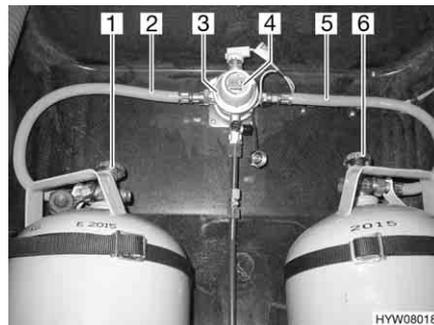
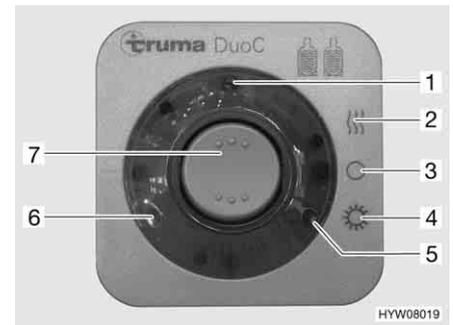

Fig. 147 DuoControl switching facility
Fig. 148 Operating unit
The DuoControl switching facility consists of a reversing valve (Fig. 147,3) and an operating unit (Fig. 148). The reversing valve is installed between the gas tubes (Fig. 147,2 and 5). The knob (Fig. 147,4) on the reversing valve is used to select which of the gas bottles is to be used as a primary bottle and which is to be used as a reserve bottle.
Only the electrical functions can be switched at the operating unit (Fig. 148). The regulator taps on the gas bottles (Fig. 147,1 and 6) must be opened manually.
The reversing valve provides a constant gas pressure, regardless of which gas bottle is being drawn upon. The two indicator lamps on the operating unit indicate the level of the primary bottle. When the green indicator lamp (Fig. 148,6) illuminates, the primary bottle is full. When the red indicator lamp (Fig. 148,5) illuminates, the primary bottle is empty. In this case, the reserve bottle is used for the gas supply.
- Open the regulator taps on the gas bottles (Fig. 147,1 and 6).
- Use the knob (Fig. 147,4) on the reversing valve (Fig. 147,3) to select the gas bottle which is to be the primary source of gas (primary bottle). Always turn the knob as far as it will go.
- Switch on the DuoControl switching facility at the operating unit (Fig. 148). To do so, set the rocker switch (Fig. 148,7) to winter operation "On and heating" (Fig. 148,2) or to summer operation "On" (Fig. 148,4). The reversing valve is now deaerated. The yellow indicator lamp (Fig. 148,1) illuminates if the winter operation has been selected and the regulator defroster is activated.
- Set the rocker switch (Fig. 148,7) to "O" (Fig. 148,3). The yellow indicator lamp (Fig. 148,1) goes out.
- Close the regulator taps on the gas bottles (Fig. 147,1 and 6).
The indicator lamps on the operating unit (Fig. 148,5 and 6) indicate in the vehicle interior whether the primary bottle is ready for operation.
If the green indicator lamp (Fig. 148,6) stops illuminating during operation and the red indicator lamp (Fig. 148,5) illuminates, the gas bottle selected as primary bottle is empty and needs to be changed. The reserve bottle continues supplying the gas appliances with gas.